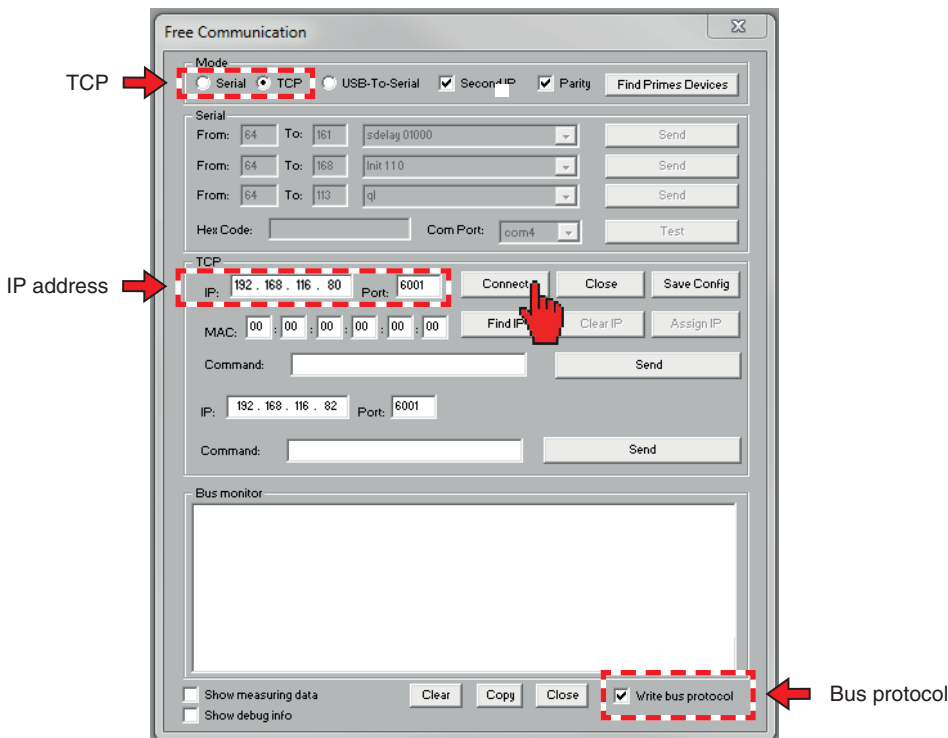

Fig. 21.14: Dialogue window **Free Communication**
3. Select “**TCP**” as the communication interface (see Fig. 21.14), activate **Write bus protocol** (bottom right corner) and type in the IP-address (standard is 192.168.116.80, please check the IP given on the type plate of your device).